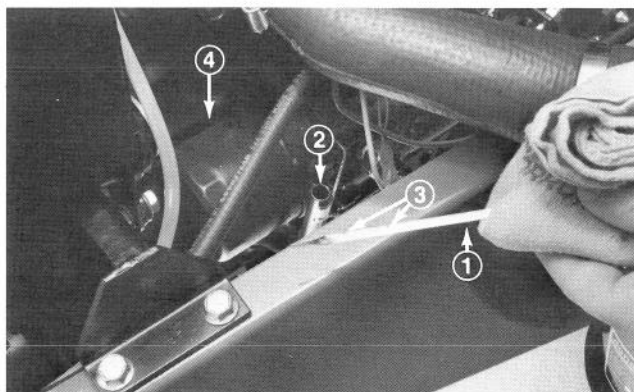
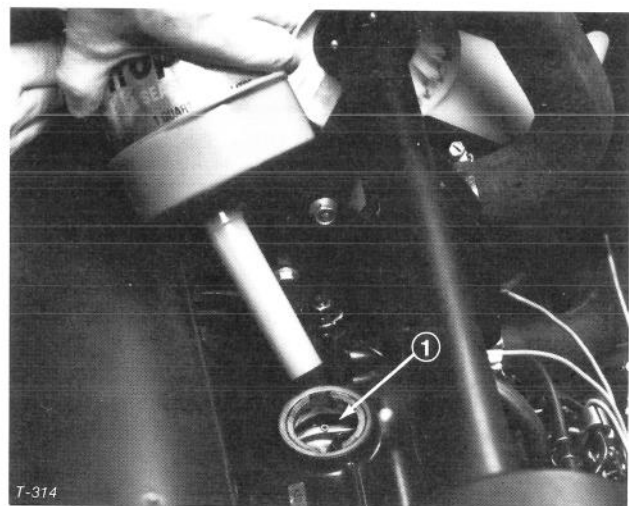

Figure 17
Figure 18
3. Remove dipstick and wipe it with a clean rag (Fig. 17). Push dipstick down into the tube and ensure it is fully seated. Pull dipstick out of the tube and check level of oil. If oil level is low, remove filler cap (Fig. 18) and add enough oil to raise level to top notch on dipstick (Fig. 17). **DO NOT OVERFILL.**